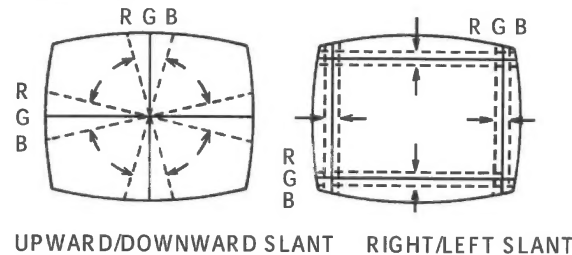

Fig. 3-2-a
2. Insert three wedges between the deflection yoke and CRT funnel to fix the deflection yoke. (Refer to Fig. 3-2-b)